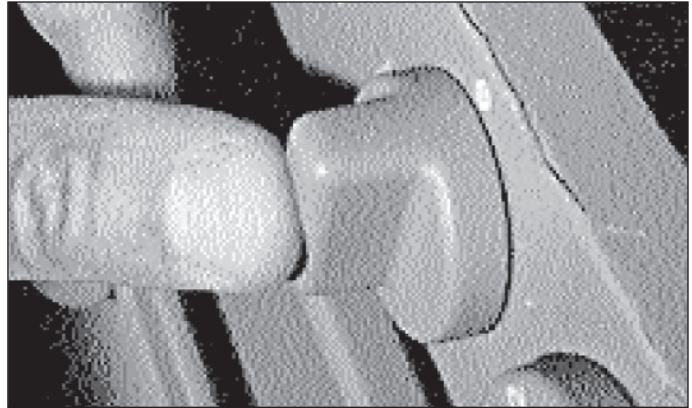

Figure 5-16.
1. Is the control knob obstructed by the control panel? If so lengthen the axis by inserting a washer into the control knob. (See Figure 5-16)